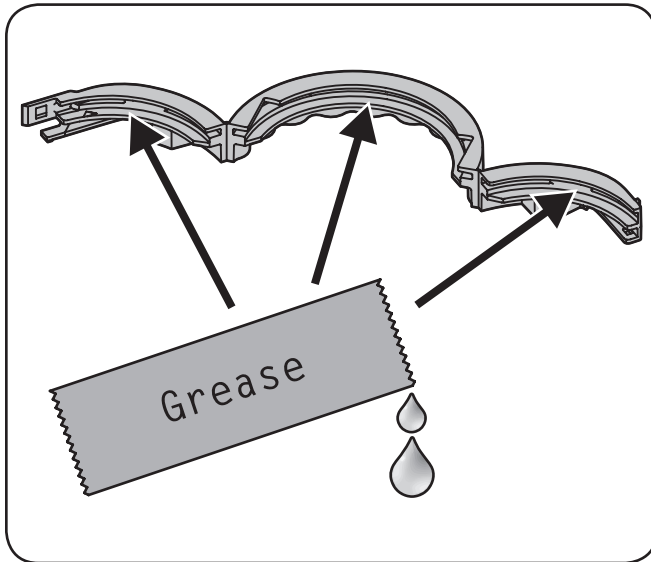

Figure 3-4
- Place some of the white lithium grease provided on the chute band as shown in Figure 3-4.